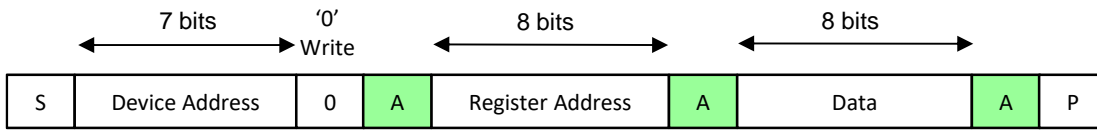

Figure 4. I2C Write – Slave Receiver Mode
1. **Slave Receiver Mode (Write Mode):** Serial data and clock are received through SDA and SCL. After each byte is received an acknowledge bit is transmitted. START and STOP conditions are recognized as the beginning and end of a serial transfer. Address recognition is performed by hardware after reception of the slave address and direction bit (see Figure 4 for Interface). The slave address byte is the first byte received after the master generates the START condition. The slave address byte contains the 7-bit KTD2151 address followed by the direction bit (R/W), which, for a write, is 0. After receiving and decoding the slave address byte the device outputs an acknowledge on the SDA line. After the KTD2151 acknowledges the slave address + write bit, the master transmits a register address to the KTD2151. This sets the register pointer on the KTD2151. The master may then transmit zero or more bytes of data, with the KTD2151 acknowledging each byte received. The address pointer will increment after each data byte is transferred. The master generates a STOP condition to terminate the data write.